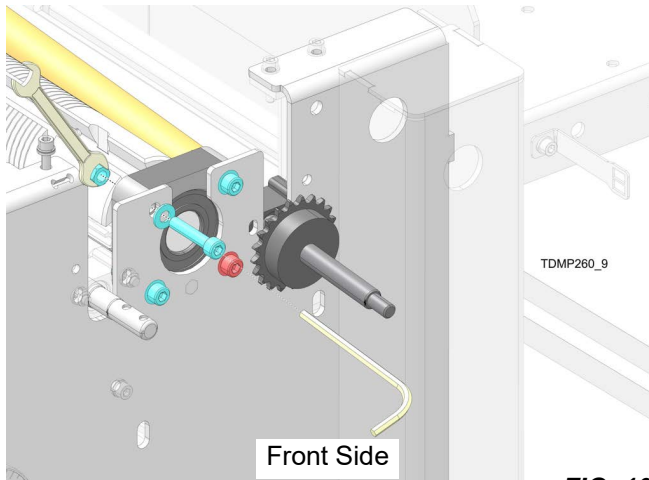

FIG. 10
1. Use wrench and hex key to remove (4) nuts, (8) flat washers, and (4) M8 HSH screws from front side cutter bearing housing as shown in FIG. 10.